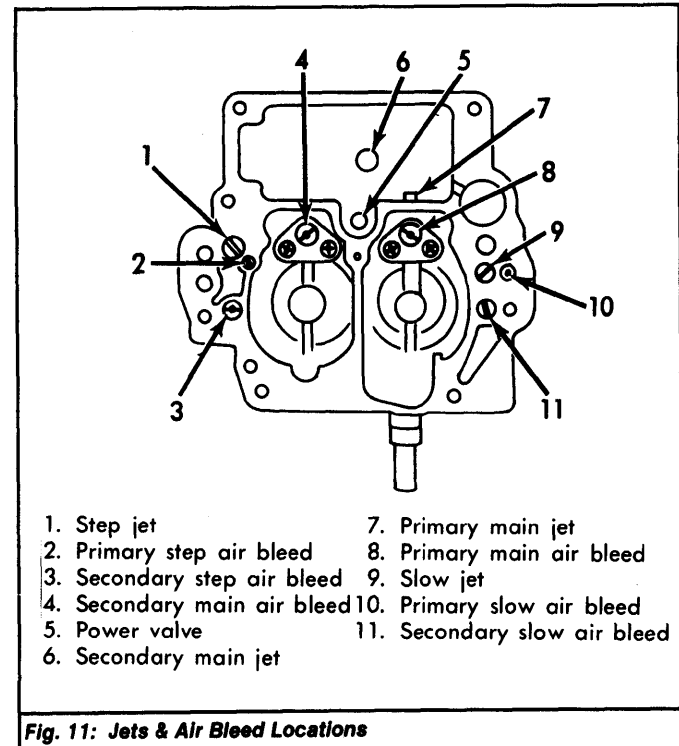

Fig. 11: Jets & Air Bleed Locations
4) Remove air bleeds and jets. See Fig. 11. Note size of jets and air bleeds for reassembly reference. Remove throttle hanger, but do not remove throttle valve and shaft, venturi, and choke valve and shaft. Remove float and collar and needle valve assembly.